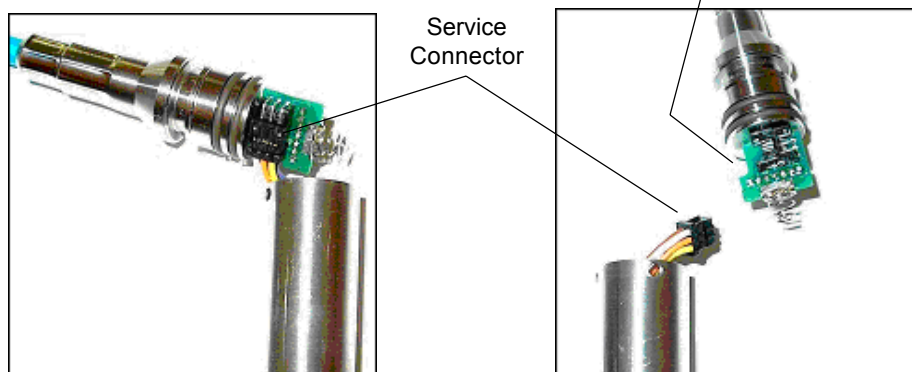

Figure 5: Removing Service Connector
3. Remove the black service connector (Figure 5)